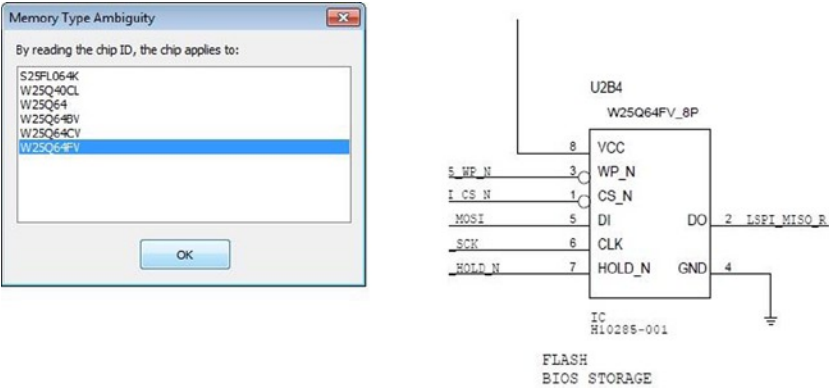

Figure 2-16. Selecting the right SPI flash memory and Intel Galileo schematics
2. After running the installer that comes with DediProg SF100, run the program **DediProg Engineering**. The first thing that this program will ask about is the SPI flash memory present in the board. If you take a quick look in the Intel Galileo schematics (<https://communities.intel.com/docs/DOC-21822>), you will notice that Intel Galileo and Intel Galileo Gen 2 uses the same type of memory, **W25Q64FV**, as shown in Figure 2-16. Just select the write memory and click the OK button.